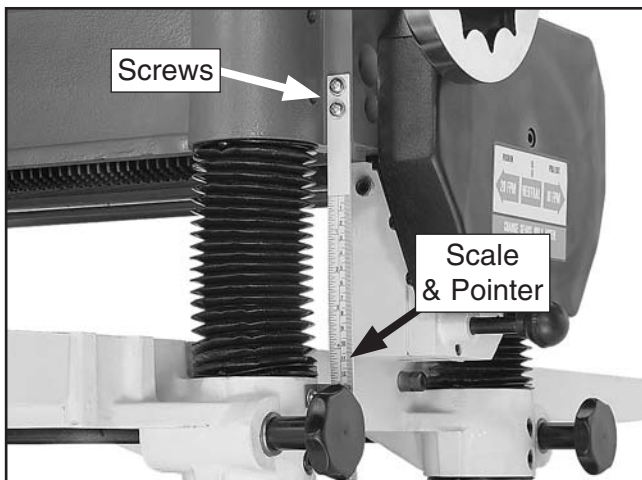

Figure 50. Table height scale.
- If there is a discrepancy between the board thickness and the reading on the table height scale, loosen the two screws shown in **Figure 50**, adjust the scale in relation to the pointer, then re-tighten the screws.